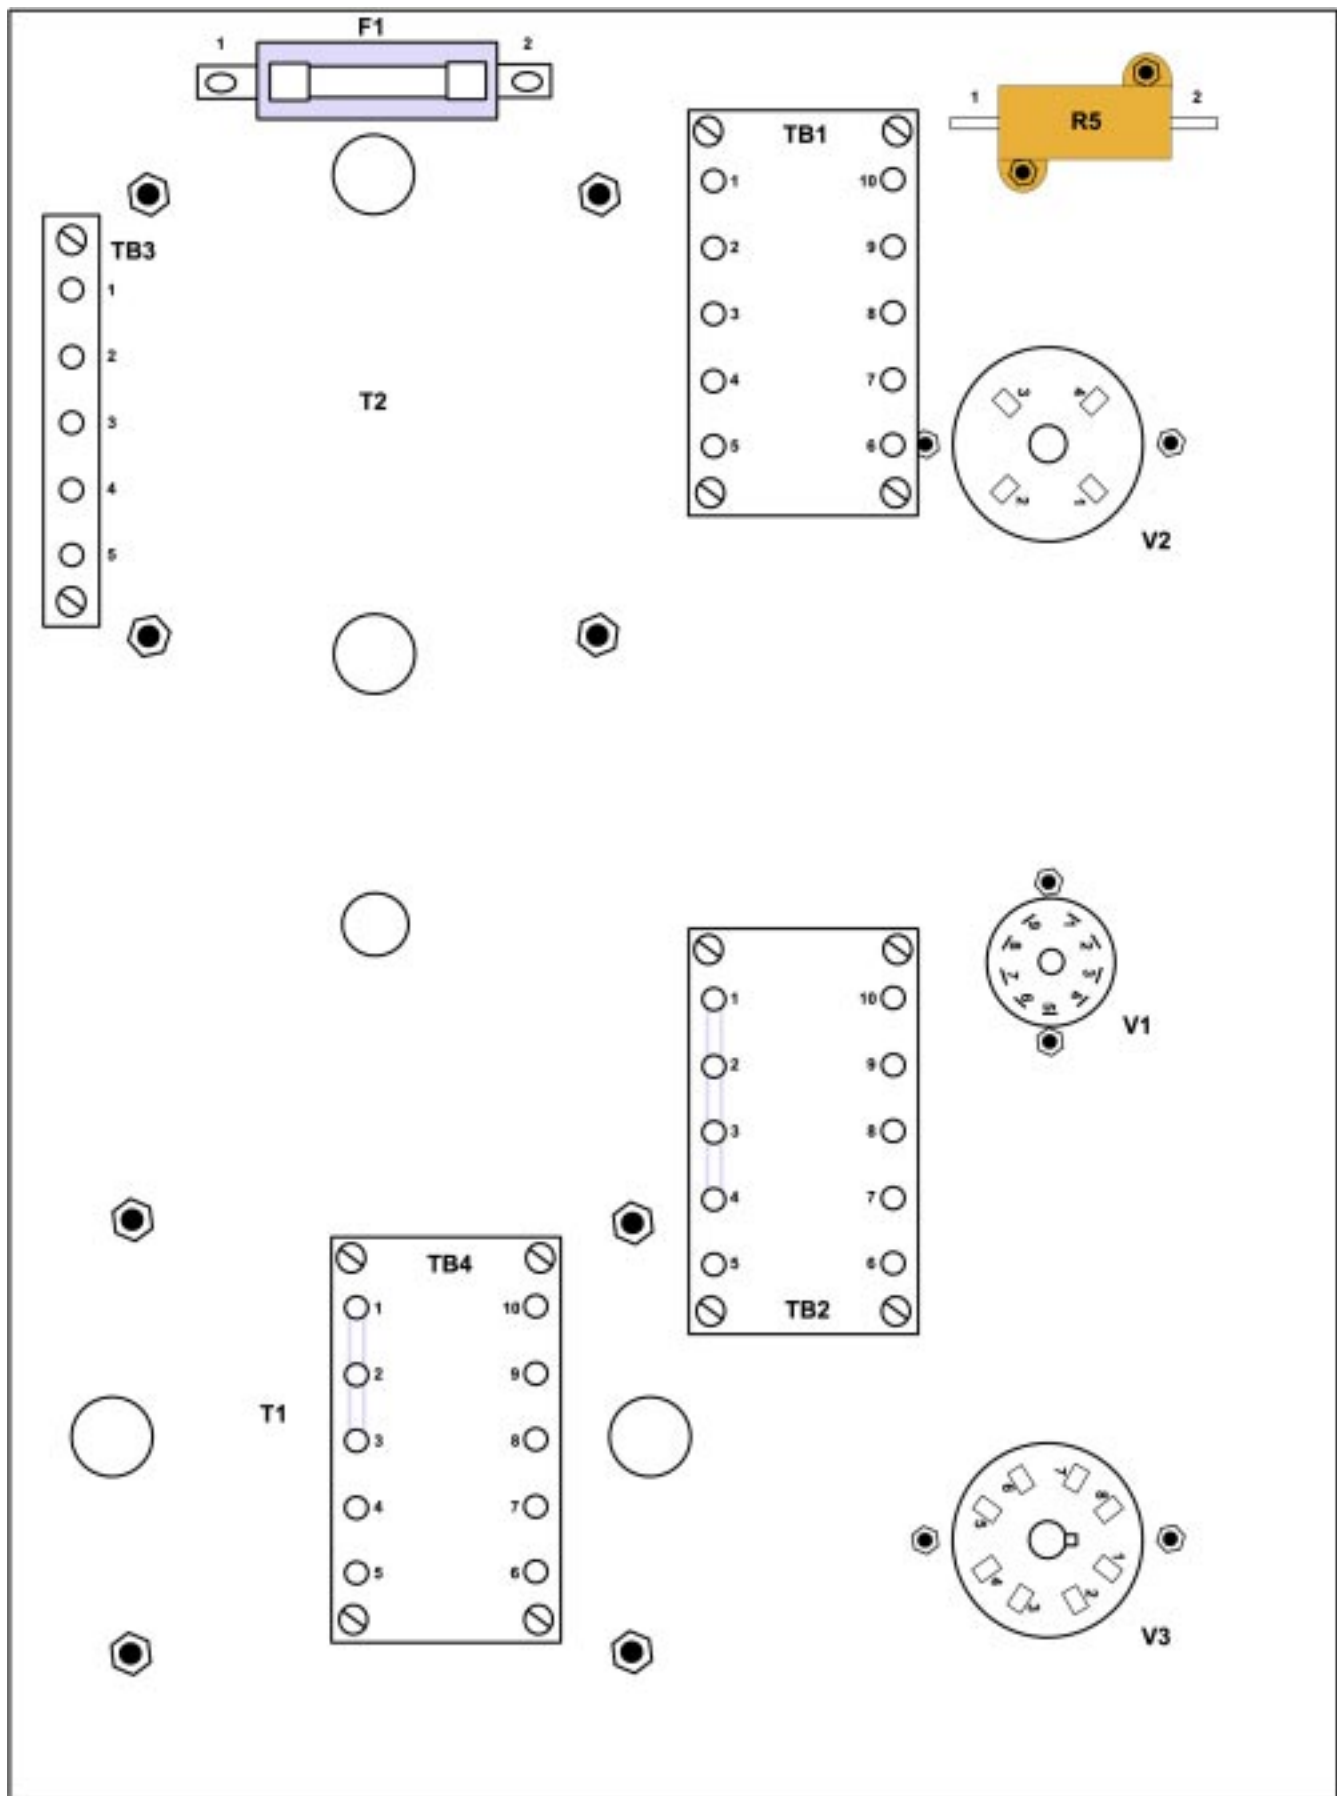

Figure 1
Take a few minutes to familiarize yourself with the layouts of the chassis plates in figures 1 and 2. The two monoblocks are mirror images of each other. Please note that while terminal board “numbers” of TB1 and TB2 are “mirrored” the tube socket pins are not. The wiring shown on the figures appears somewhat messy. This is intentional as we have spread the wires out to make them more visible for your assembly process. As you assemble the wires and connections be a little bit neater with their layout. Route them close to the aluminum chassis plate and underneath the terminal boards and components. Do not make big airborne loops out of the wires as they will act as antennas and pickup noise, radio stations, etc. And be very careful with that soldering iron and don't burn the insulation off of any adjacent components.
1) To begin, remove the bottom black panels. Mount the tube sockets using the supplied hardware and in the direction shown in figures 1 and 2. The chassis plates are mirror images of each other and therefore as you continue through the assembly steps note that some components will have to mount differently on the opposite plate. If you are installing the Ultimate Upgrade package note that the teflon tube socket pins are not marked with numbers. Orient and install sockets V1 and V2 according to the key in the center of the socket. Note that tube socket V2 is not “keyed” but has two small diameter pins and two large diameter pins. The small diameter pins are 2 and 3. The large pins are 1 and 4. Orient and mount the socket according to the drawing.
Install the terminal boards TB1, TB2 and TB3 to the bottom side of the chassis as shown in Figures 1 and 2 using the supplied hardware. The black button head screws are used on the outside of the chassis and the silver screws on the inside. The lugs of the terminal boards TB1, TB2 and TB3 have been numbered (refer to figures 1 and 2) to facilitate assembly. In subsequent steps a specific lug will be referenced by the terminal board number followed by the lug number. For example the instructions: “solder a black wire from TB2-1 to TB1-14”, refers to lug #1 of terminal board TB2 and lug #14 of terminal board TB1.